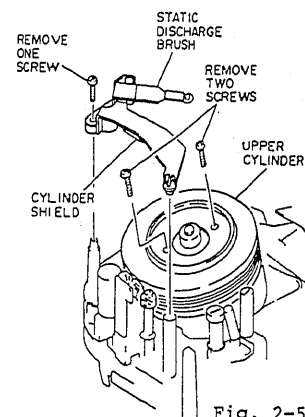

Fig. 2-55
1. Remove one (1) screw holding the cylinder discharge brush and cylinder shield. (See Fig. 2-55)
2. Remove two (2) screws holding the upper cylinder and pull out the upper cylinder from the lower cylinder.